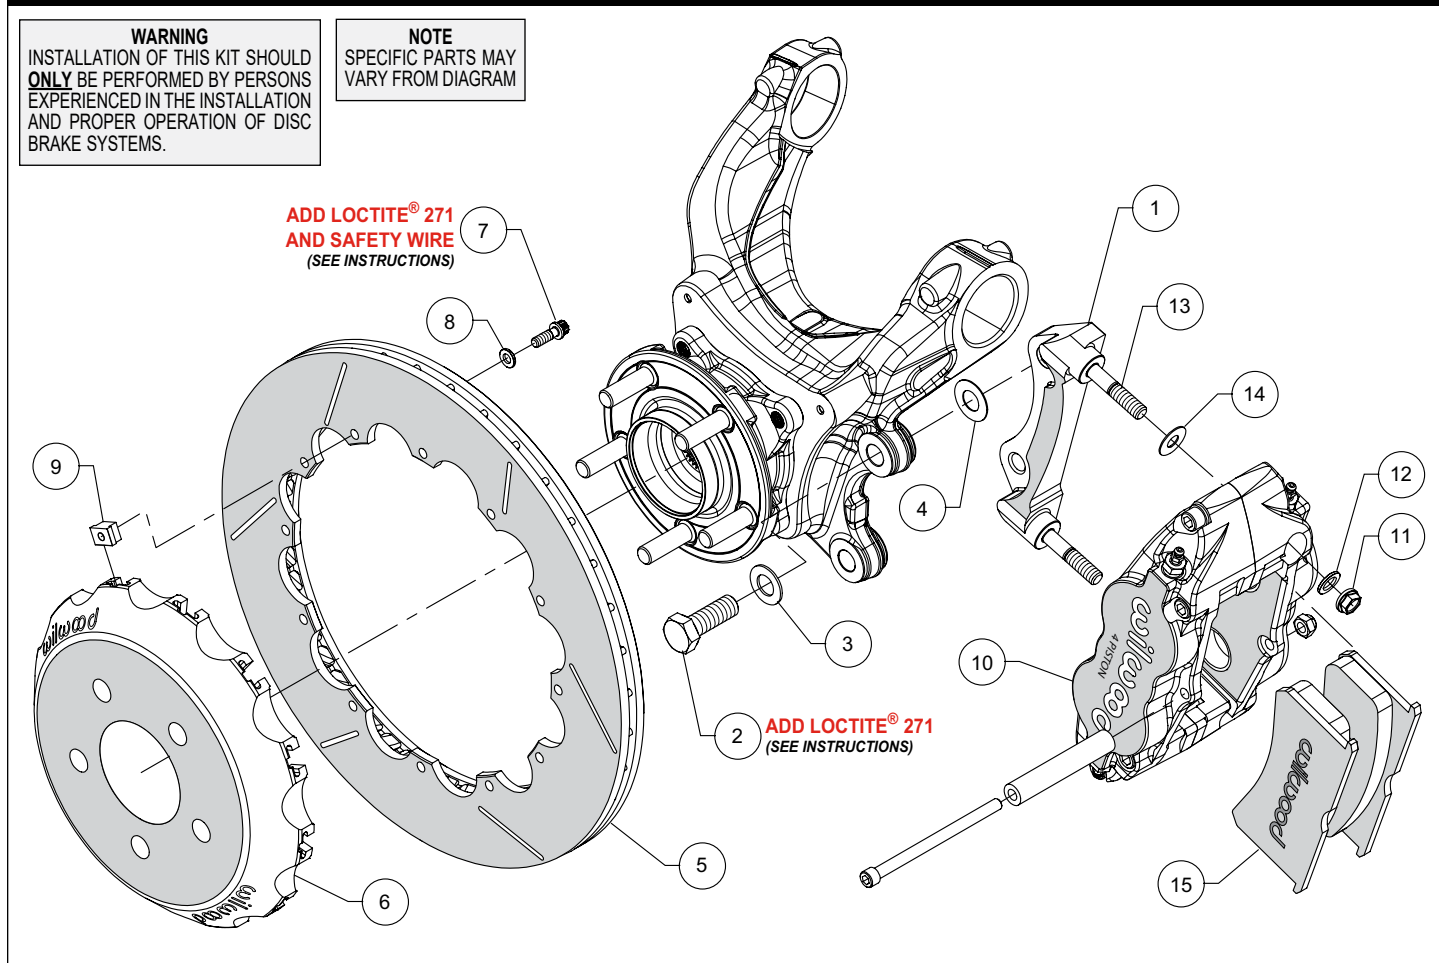
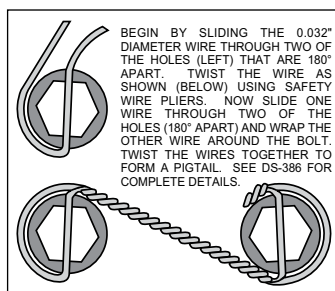

Figure 1. Typical Installation Configuration
Figure 3. Safety Wire Diagram
**NOTE:** Numbers in parenthesis refer to the parts list and Figure 1 on the preceding pages.
- The caliper mount bracket (1) should initially be installed with clean, dry threads on the mounting bolts. Orient the bracket as shown in Figure 1, and Photo 1, and install using bolts (2) and washers (3). Initially place one .029" thick shim (4) on each bolt between the bracket and upright, Figure 1. Temporarily tighten the mounting bolts. **NOTE:** The bracket must fit squarely against the mount bosses on the upright. Inspect for interference from casting irregularities, machining ridges, burrs, etc. Later, after the caliper alignment has been checked, the mount bolts will be secured using red *Loctite*® 271.
- Orient the rotor (5) and the hat (6) as shown in Figure 1 and Photo 2. Attach rotor to hat using bolts (7), washers (8), and t-nuts (9). Follow additional instructions included with the bolt kit. Apply red *Loctite*® 271 to the bolt threads and torque to 120 in-lb using a criss-cross pattern. Safety wire bolts using standard 0.032 inch diameter stainless steel safety wire as shown in Figure 3. Please refer to Wilwood's data sheet DS-386 (available at [www.wilwood.com/Pdf/DataSheets/ds386.pdf](http://www.wilwood.com/Pdf/DataSheets/ds386.pdf)) for complete safety wire installation instructions.
- Initially place one .035" thick shim (14) on each stud (13) as shown in Figure 1 and Photo 3. Mount the caliper (10) onto the bracket (1) using lock nuts (11) and washers (12), Figure 1. Temporarily tighten the lock nuts and view the rotor through the top opening of the caliper. The rotor should be centered in the caliper, Photo 4. If not, adjust by adding or subtracting shims (4) between the bracket and the upright. Once the caliper alignment is correct, remove the bracket mounting bolts (2) one at a time, apply red *Loctite*® 271 to the threads, and torque to 105 ft-lbs.